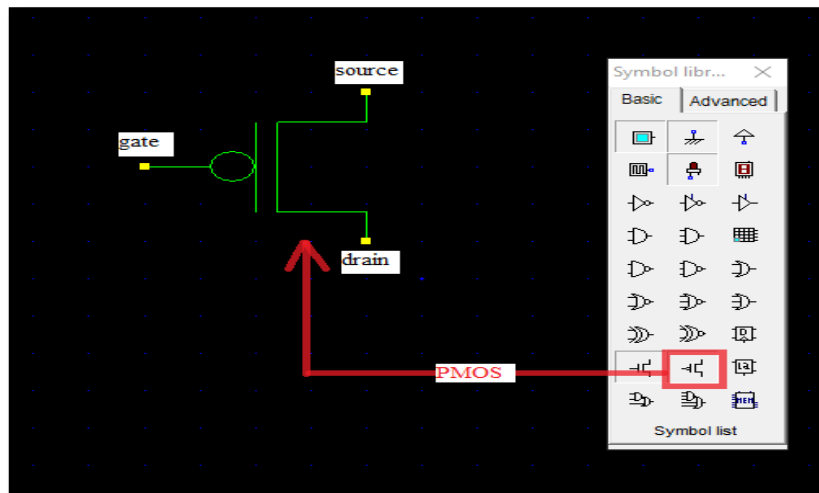

Figure 19: PMOS transistor symbol
- Connect Vdd and GND to the schematic and Connect input button and output LED. See figure 19. (you can use clock input)